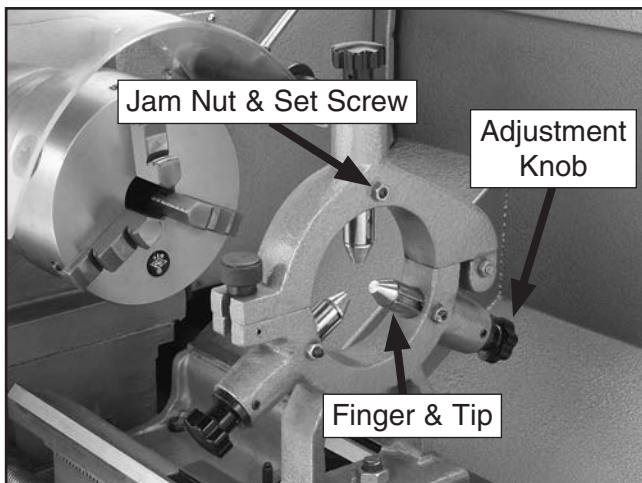

Figure 106. Rest fingers and tips.
1. Loosen the jam nut and set screw shown in **Figure 106**.